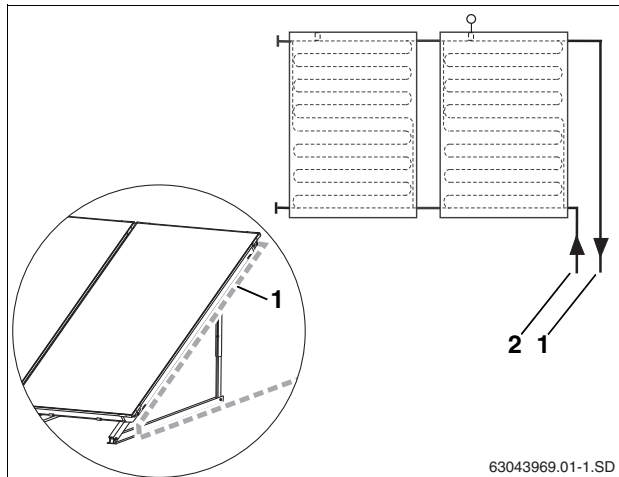

Fig. 55 Feeding header pipes to the collector array
- ▶ Route the supply pipe (Fig. 55, [1]) alongside the collector, rather than vertically downward.